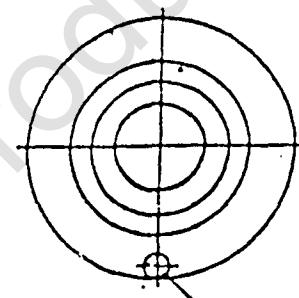

Fig. 3
- * Allow the wheel to oscillate to find the center of gravity which is then marked "S" with chalk (Fig.3)